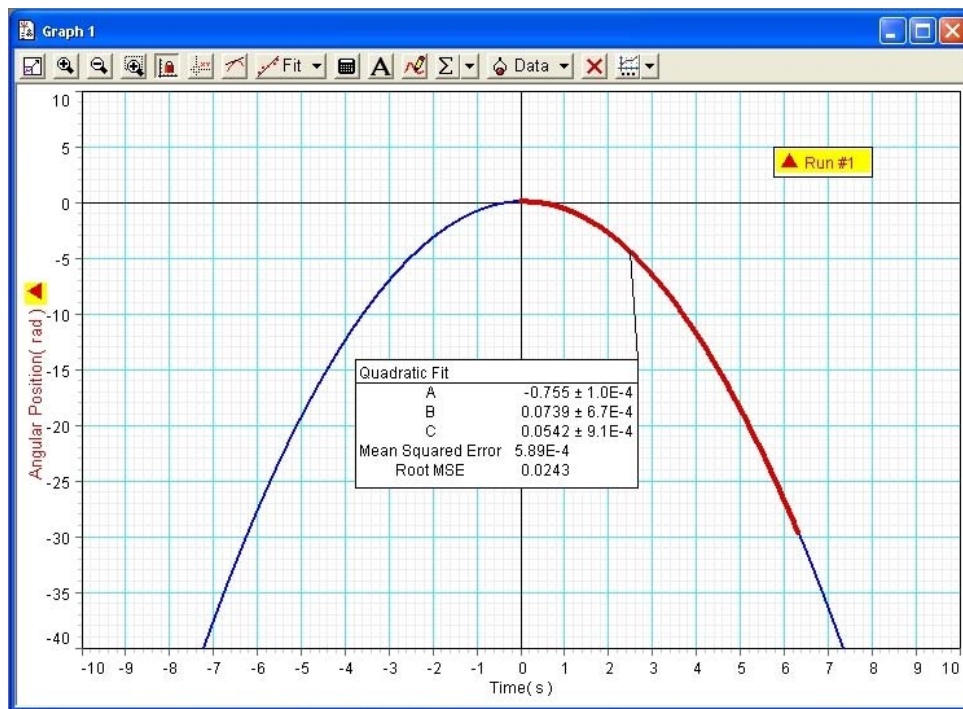
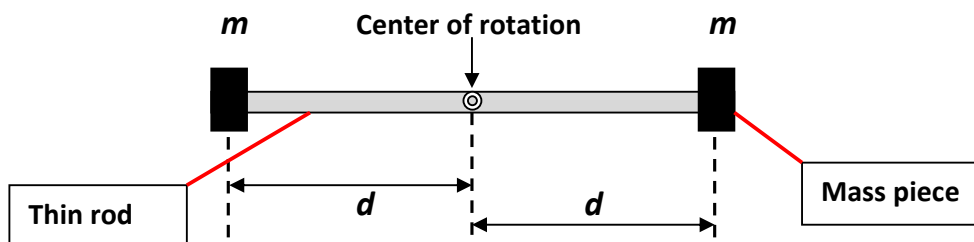

Figure 6
Figure 7
- Your data will look like the red curve in Figure 6. It doesn't matter if you get the curve running upward with positive value for angle θ , you may adjust the scale according to your need. Click on the **Fit** button in **DataStudio** and then select **Quadratic Fit**. The blue curve in Figure 6 shows the fit. The fitting parameter A is related to the angular acceleration α of the rigid body, through $\alpha = 2 |A|$.
A dumbbell is shown in Figure 7. It consists of a thin rod and two mass pieces of mass m each, attached to the rod symmetrically.
6. Your data will look like the red curve in Figure 6. Click on the **Fit** button in **DataStudio** and then select **Quadratic Fit**. The blue curve in Figure 7 shows the fit. The fitting parameter A is related to the angular acceleration α of the rigid body, through $\alpha = 2 |A|$.